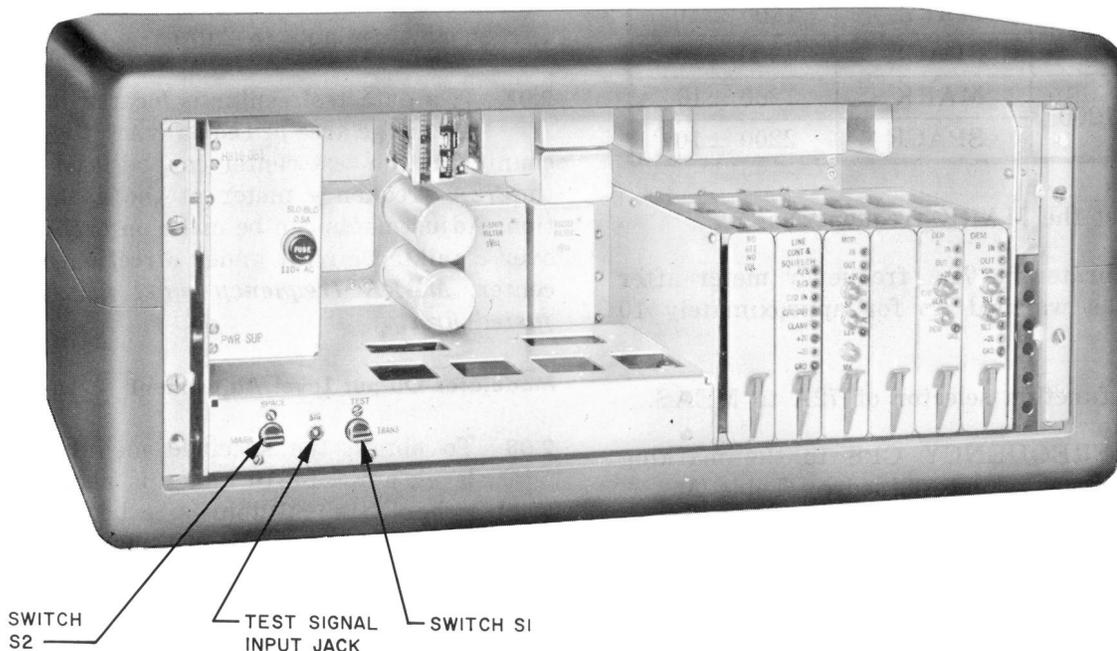

Fig. 1 — Data Set Model 3, Interior View
2.03 Two switches for line-up adjustment are located on the front of the data set, Fig. 1.
- **Switch S2.** MARK position is used to cause the modulator to send steady MARK signal, if nothing is connected to the test signal jack, Fig. 1. The MARK position is also used when a signal is applied to the test signal jack. The SPACE position is used to cause the modulator to send steady SPACE signal.